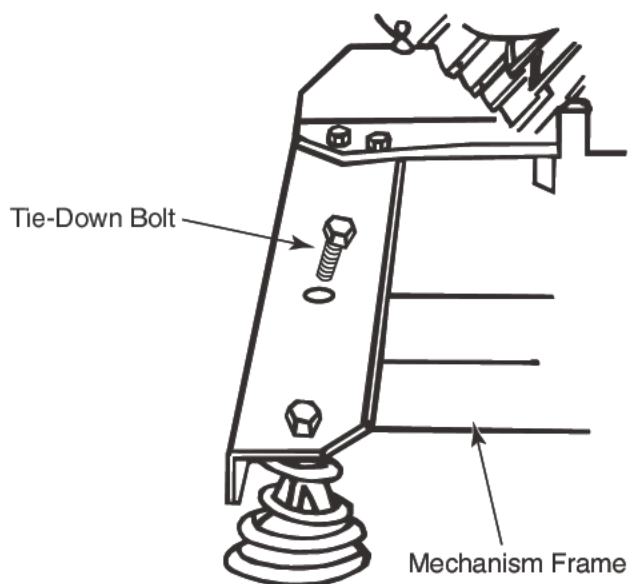

Figure 1-4. CD Changer Tie-Down Screws
2. Remove the shipping tape from the front ends of the mechanism tie-down levers on the side of the mechanism frame (see *Figure 1-4*).